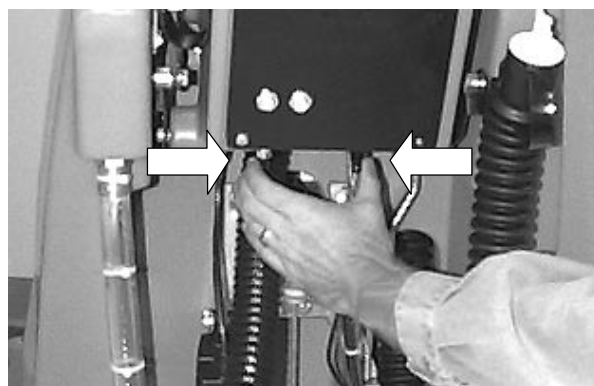

FIG. 11
- Adjust control grips to a comfortable operating height, squeeze together the two levers below the console (*Figure 11*).